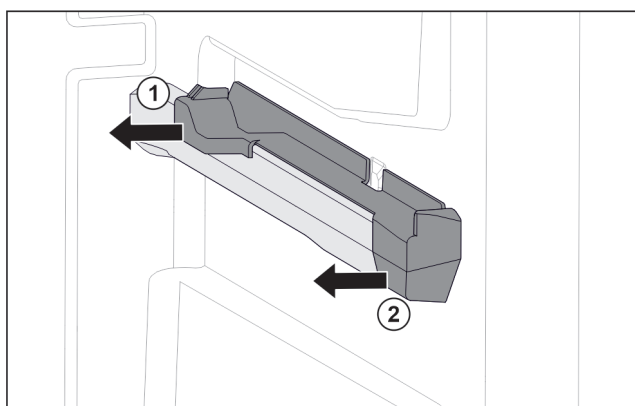

Fig. 117 Attachment on the right moulded rib
- ▶ Pull off attachment at the back sideways. Fig. 117 (1)
- ▶ Pull off attachment at the front sideways. Fig. 117 (2)